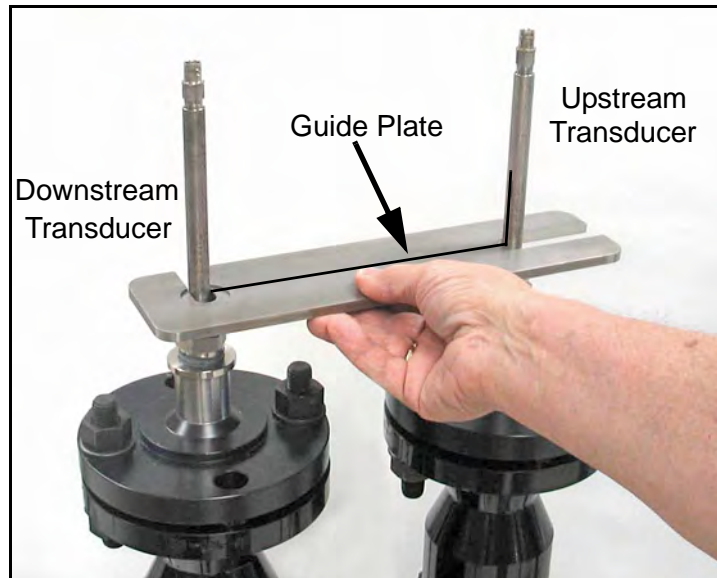

Figure 9: Installing the Guide Plate
- Slide the end slot of the *guide plate* around the upstream transducer, and rotate the plate until the side slot is around the downstream transducer (see *Figure 9* below). Then, align the mark on the upstream transducer barrel with the guide plate mark. Slightly tighten the upstream barrel flange bolts to maintain the alignment.